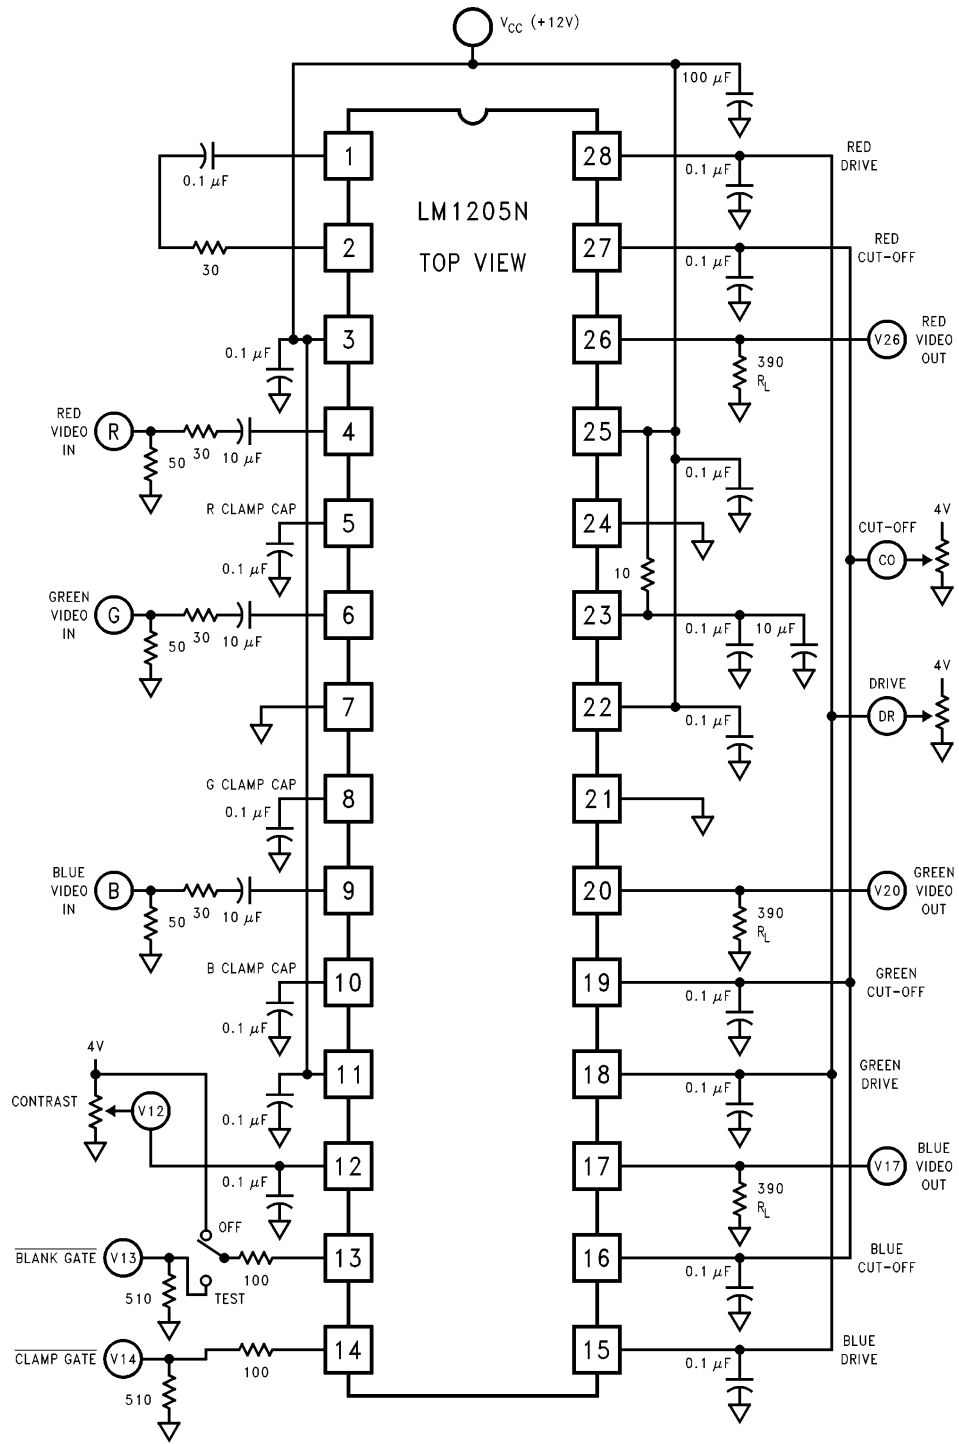

FIGURE 2. LM1205N DC Test Circuit
**DC Electrical Characteristics** See DC Test Circuit (Figure 2),  $T_A = 25^\circ\text{C}$ ;  $V_{CC1} = V_{CC2} = 12V$ .  $V_{I2} = 4V$ ;  $V_{I4} = 0V$ ;  $V_{\text{cut-off}} = 1.0V$ ;  $V_{I3} = 4V$ ;  $V_{\text{drive}} = 4V$  unless otherwise stated.
**Note 7:** The supply current specified is the quiescent current for  $V_{CC1}$  and  $V_{CC2}$  with  $R_L = \infty$ , see Figure 2's test circuit. The supply current for  $V_{CC2}$  (pin 23) also depends on the output load. With video output at 1V DC, the additional current through  $V_{CC2}$  is 8 mA for Figure 2's test circuit.